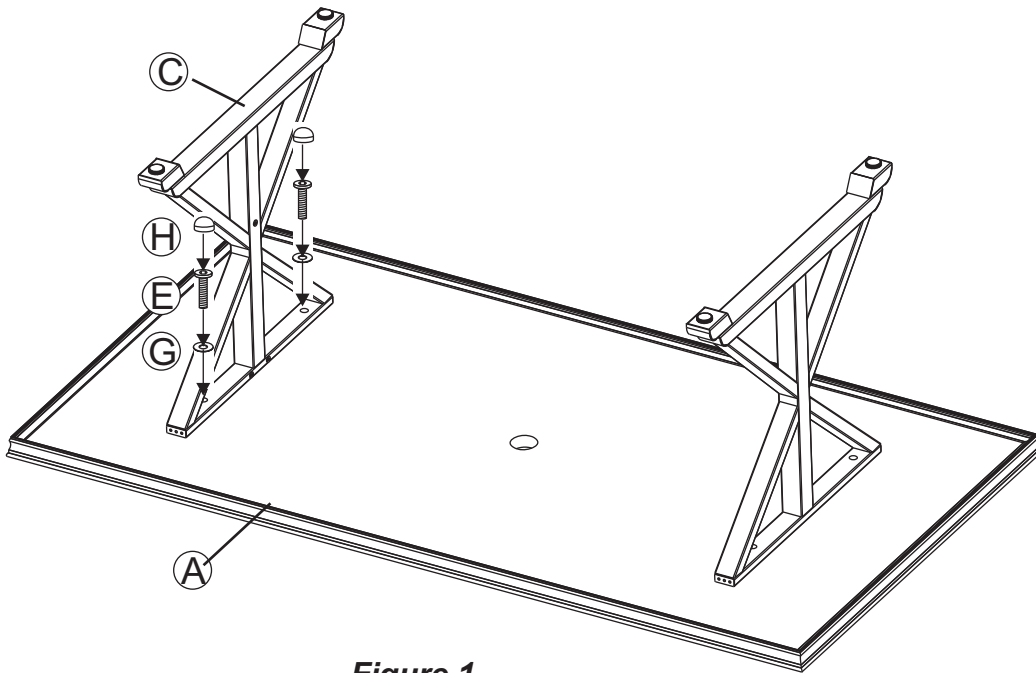

Figure 1
- 1 Place the table top upside down on a flat, non-abrasive surface. Attach a table leg to the table top by using two 1/4"x35 mm bolts and Ø20xØ6.5x2.0 mm washers as shown in the **Figure 1**. Guide the bolts through the holes in the table leg, into the pre-drilled holes in the table top. **Hand tighten 2-3 turns only**. Repeat on the other leg.
1 **Important: We recommend 2 people work together to assemble the chair.** Note the arrow labels on the "U" bar and the rocker assembly. Also note the horseshoe shape of the rocker plate. Point the open end of the horseshoe away from you. The arrows on the rocker assembly should be pointing towards you. Set the chair frame on the rocker assembly with front of the seat facing you and the arrows on the "U" bar pointing towards you as shown in **Figure 1**. This is very important for a safe, balanced rocking motion. **If chair frame has been properly positioned on the rocker assembly, all arrows on the "U" bar and rocker assembly will be pointing in the same direction.**